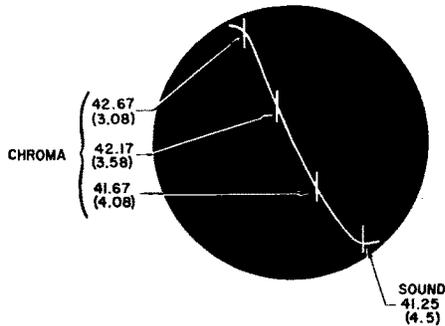

Figure 6.1 Reversal of Sweep when CHROMA Switch is Turned On
6.1.12 Turn the CHROMA switch to the ON position. Notice that the curve is the same as in Figure 5.7B except the direction of sweep is reversed as shown in Figure 6.1.